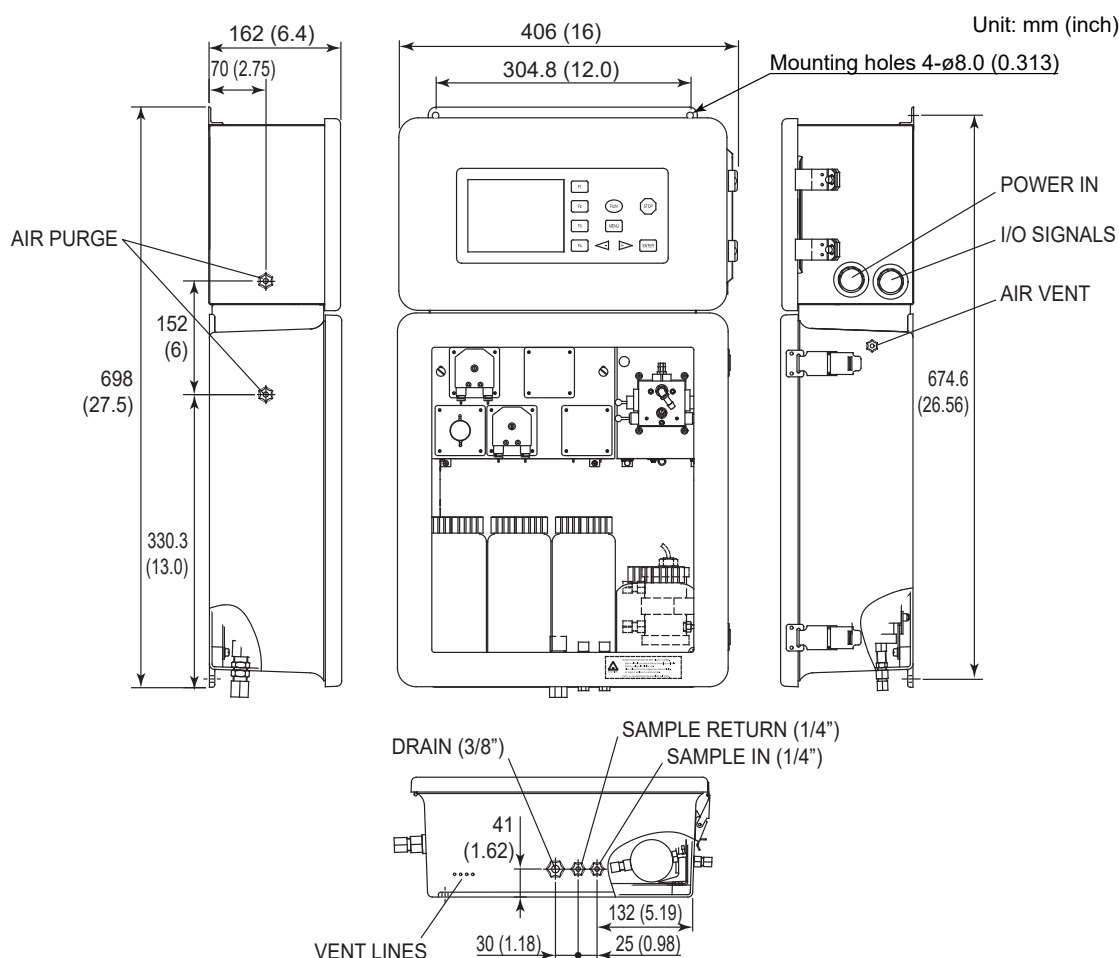
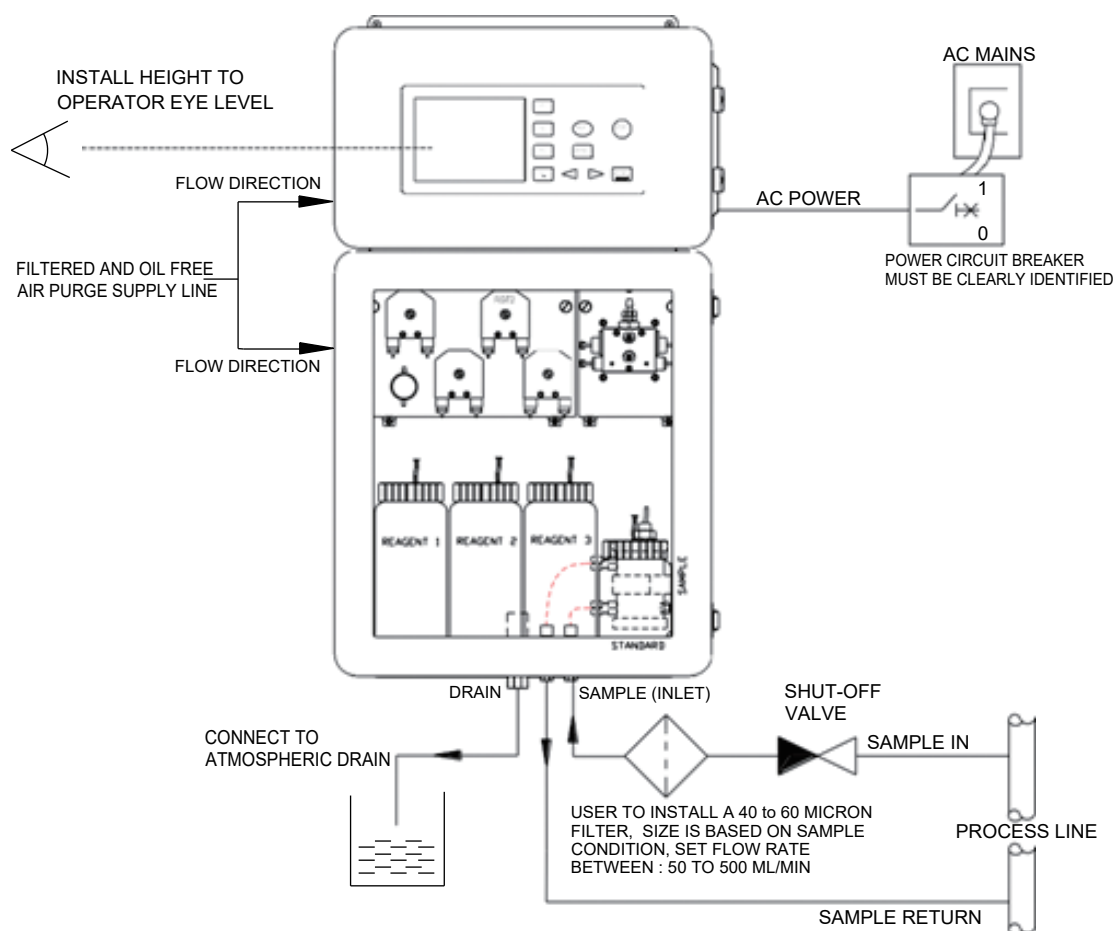

Figure 2.1 Mounting dimensions
Figure 2.2 Typical external plumbing connections
- Refer to Figure 2.1 and Figure 2.2 for dimensions (in mm and inches).
- Make sure that the wall that you choose can support the weight of the instrument (approximately 18 kg or 40 lbs.) See Figure 2.1.